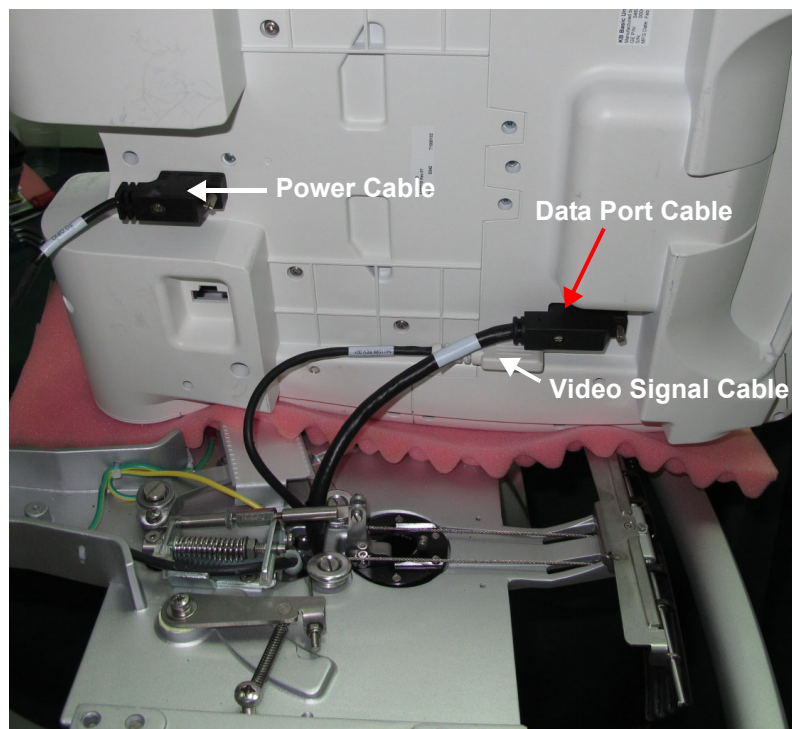

Figure 8-80 Underside of the Keyboard Assembly Showing Cables Connected
- 6.) Tilt the keyboard assembly upwards, exposing the three cables connected to the keyboard assembly - see Figure 8-80 below.
- 7) Using the appropriate screwdriver release the securing screw and unplug the data port cable from the Keyboard Assembly as shown in Figure 8-80, above.
- 8.) Unplug the Video Signal cable and using a flat screwdriver, release the securing screw and unplug the power cable from the Keyboard Assembly - see Figure 8-80, above.